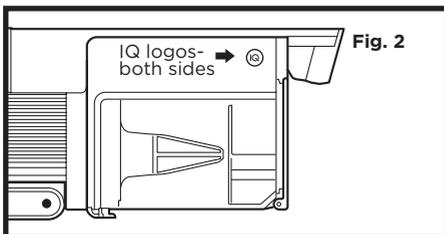

Fig. 2
2. Locate the sensors inside the nozzle of the hand vacuum. The sensors are on the interior walls of the nozzle, about 3 inches down the air path, aligned with the IQ logos (Fig.2) on the exterior.